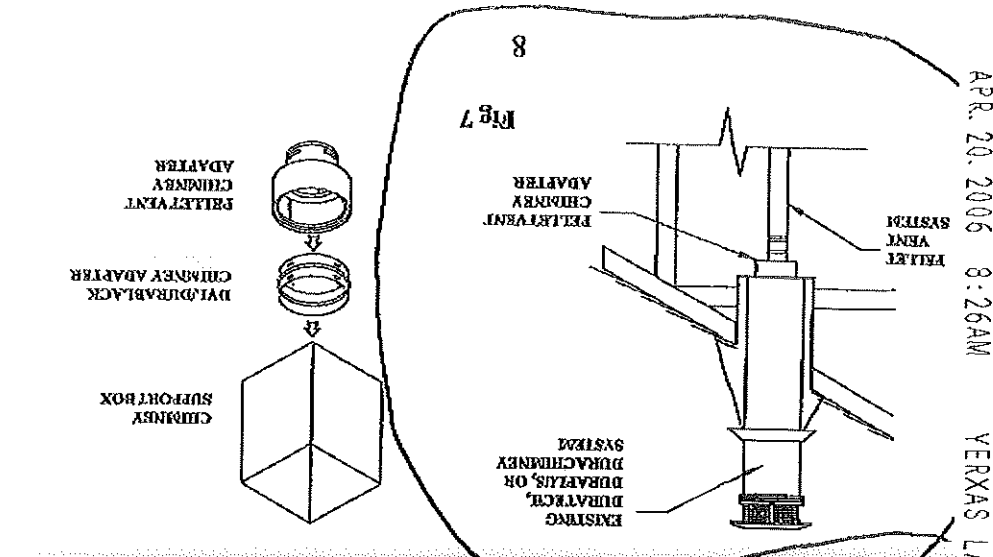

Figure 7
6. If it is desired to attach to an existing 6", 7" or 8" DuraTech, DuraPlus or DuraChimney chimney, either roof supported, or ceiling supported: (Figure 7).
C. Install a DVL/Durablack Chimney Adapter - product stock numbers (6") 8674, (7") 8774, or (8") 8874 - in the existing ceiling support box, as shown in Figure 7. Note that the DVL/Durablack Chimney Adapter only connects to Simpson Dura-Vent chimney systems.
E. Connect the appliance to the Chimney Adapter using a Pipe Adapter, lengths of pipe as required, and an Adjustable Length pipe. Slide the Adjustable Length down over the top pipe section, position the installation vertically plumb, then slip the Adjustable Length up and twist lock it to the Chimney Adapter. Once all the components are firmly seated and properly aligned, carefully drill three 1/8" diameter holes through the outer sleeve only in the center of the slots located at the bottom of the Adjustable Length pipe. Do not penetrate the inner liner. Use (3) 3/8" length sheet metal screws to secure the Adjustable Length pipe. The completed installation will look like Figure 7.